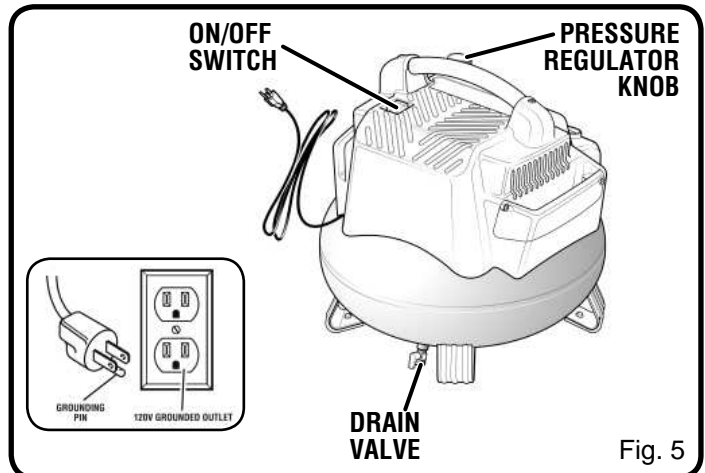

Fig. 5
See Figures 5 - 6.
- Ensure the tank drain valve is closed (see Fig. 5).
- Ensure the ON/OFF switch is in the **OFF (O)** position and the air compressor is unplugged (see Fig. 5).
- Ensure the pressure regulator knob is turned fully counterclockwise (see Fig. 5).